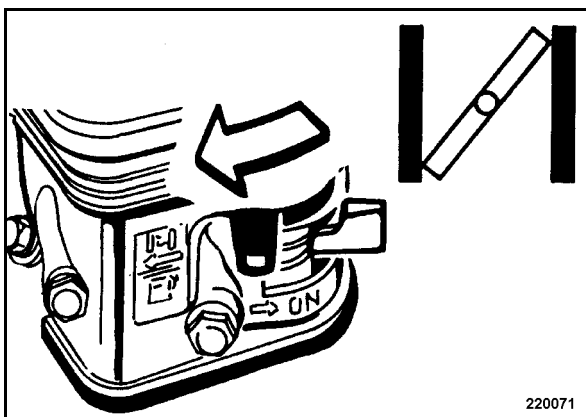

Fig. 19
- Close the choke completely by shifting the lever (Fig. 19) in direction of arrow against the end stop.